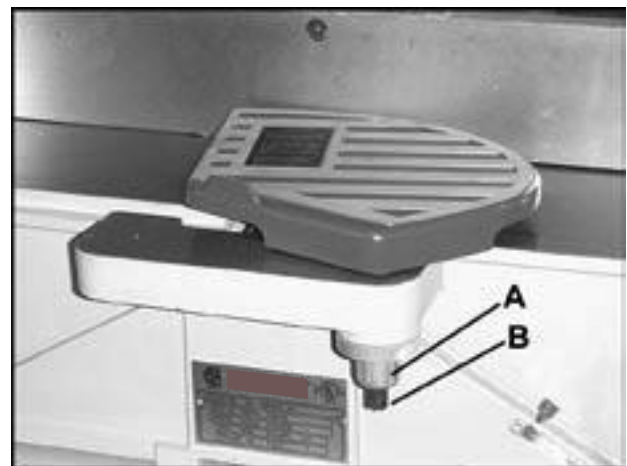

Fig. 6
2. Turn knob (A) counterclockwise to create tension on spring, and hold it there. See Figure 6
3. Insert guard post (B) down through hole in front of ledge.
4. Slightly turn knob (A), if necessary, until the guard seats itself, and the spring engages the slot at the end of the guard post.